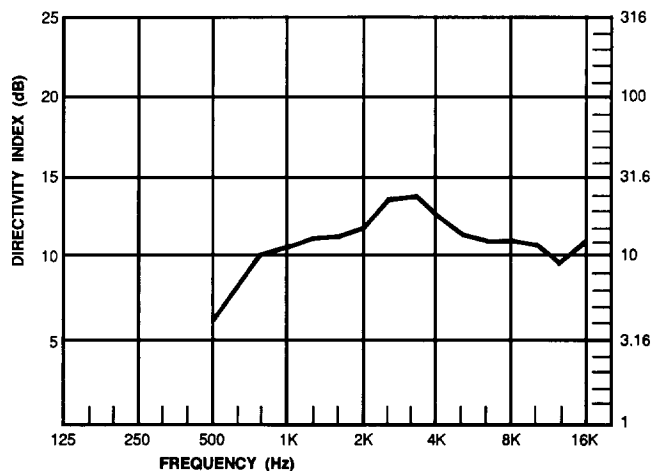

Figure 9. Q and Directivity Index
Mean Directivity (Q): 14.8 (+18, -10.4) Reference Axis, 500 Hz to 16 kHz (See Figure 9)
Mean Directivity Index (DI): 11.7 dB (+4 dB, -4.8 dB) Reference Axis, 500 Hz to 16 kHz (See Figure 9)